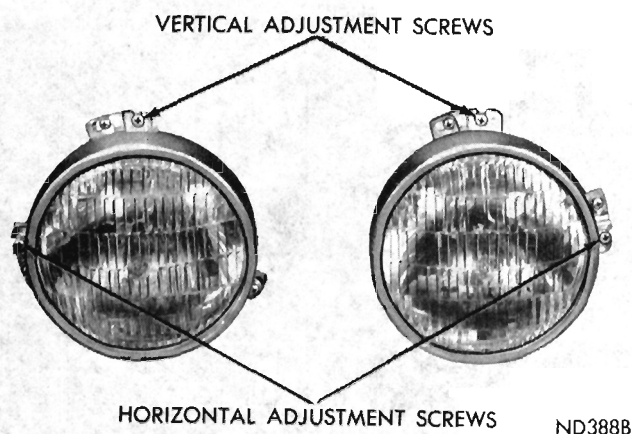

Fig. 5 - Headlight Adjusting Points
(1) With pointer of **RIGHT-LEFT** scale still set **2-RIGHT**, sight through aimer viewing port. **Make sure that line of sight is perpendicular from eye to viewing port of aimer and that target image is centered in viewing port of aimer.**
(2) While sighting through viewing port of aimer, turn horizontal adjusting screw on headlight until split target image line merges into one unbroken line. To remove backlash, be sure to make a final adjustment by turning headlight horizontal adjusting screw in a clockwise direction, (Fig. 5).
(3) Make horizontal adjustment on other side of vehicle in same manner.
Remove headlight door. Adjust top adjusting screw for vertical adjustment, adjust side screw for horizontal adjustment. (See Fig. 5.)